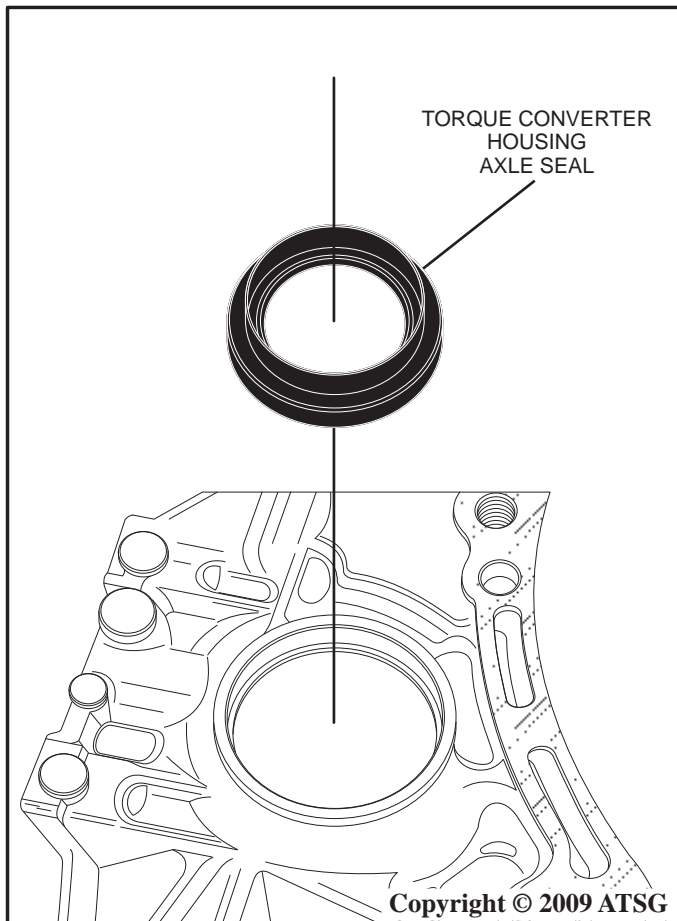

Figure 66
15. Using a plastic hammer, with even taps, carefully install the torque converter housing axle seal into the case as shown in Figure 66.